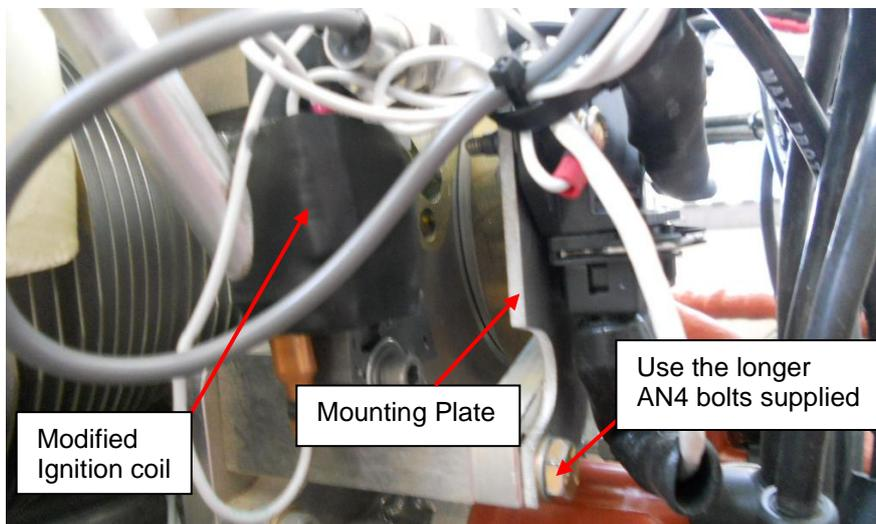
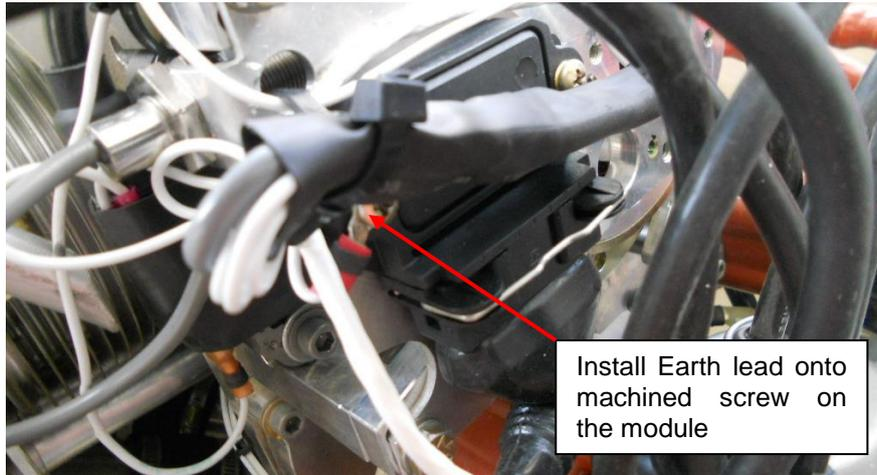

Figure 2 - Modified coil and mount plate installation
Figure 3 - Earth lead installation
- c) Install the mounting plate as shown in Figure 2 below. Use the supplied longer bolts to account for the thickness of the cold start ignition kit mounting plate. Ensure the module mounting screws are tightened securely (refer to the engine overhaul manual, document JEM0001, for appropriate torque settings). The ignition earth lead is connected via one of the machined screws that are used on the module (Figure 3).